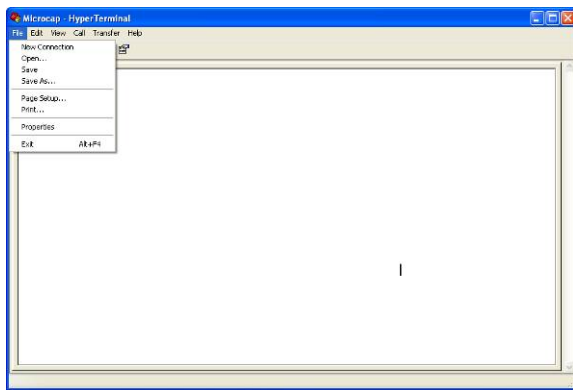

Figure 13. HyperTerminal Main Screen
16. Click OK in the Properties dialog box to return to the Hyperteminal Screen, seen in Figure 13. HyperTerminal Main Screen on page 34.